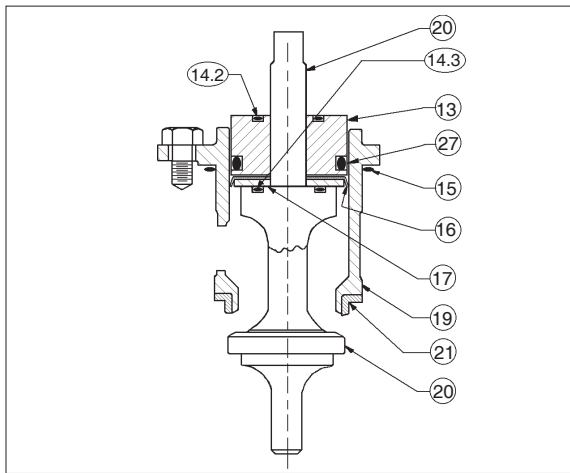

Figure 3: Assembled ITA
5. The Inner Trim Assembly (Figure 3) is removed and replaced in the body (23) as an assemblage of parts. The Inner Trim Assembly, hereinafter called **ITA**, consists of the following parts:
13. Remove the lower piston spring (22), as applicable, from within the body (23).
14. Remove o-ring cage seal (15).
15. If supplied, remove internal sensing drilled plug (33) using 5/32" (4 mm) Allen wrench.
16. Remove body (23) from vise. Clean all reusable metal parts according to owner's procedures.
C. Disassembly of the ITA: (See Figure 3)
1. Pull the valve plug (20) downwards and out of the guide bearing (13) and cage (19).
2. Remove the guide bearing (13) from the upper end of the cage (19).
3. Remove o-ring middle stem seal (14.2) from guide bearing (13).
4. Examine the components (27.1, 27.2, 27.3, 27.4) of the dynamic side seal (27) mechanism to determine if significant leakage was occur-